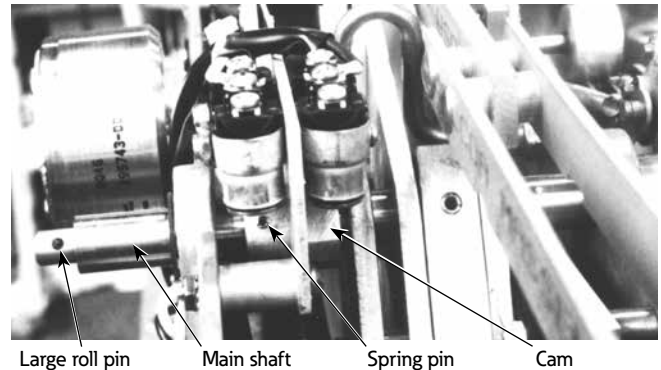

Figure 22. Cam installed. Note position of spring and roll pins.
1. Slide new switch cam (Item 15) onto main shaft. Orient cam as shown in Figures 22 and 23.
2. Gently push switch assembly down until hearing a click as switch SW3 contact meets cam and closes. Secure switch in position at which click is heard (Figure 22).